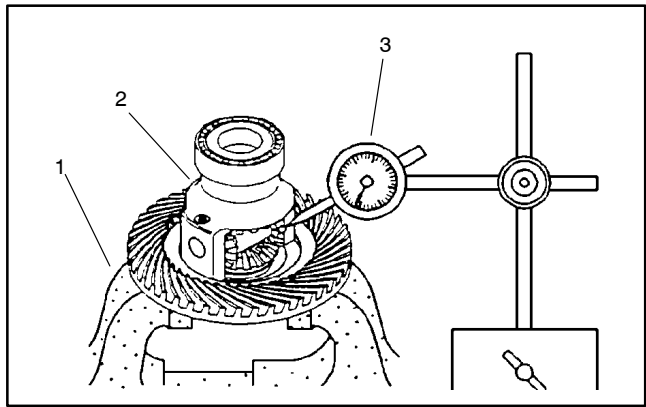

Figure 27
5. Secure the differential case in a soft jawed vise. Position a dial indicator on a tooth of the differential pinion gear. Press the pinion and side gear against the differential case and measure the pinion gear to side gear backlash (Fig. 27).